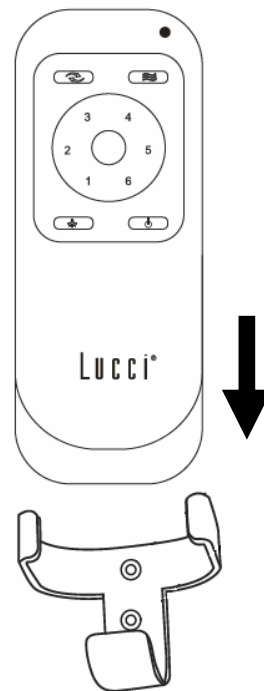

Fig. 9b
2. Slide the remote into the holder. (Fig. 9b)